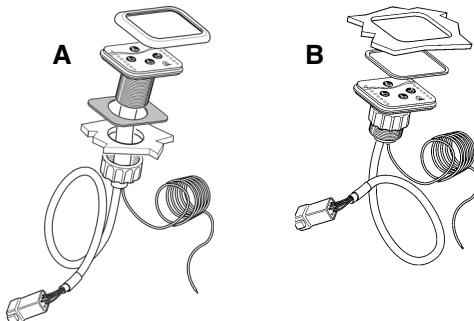

Fig. 20
Install the control panel (B), **see fig. 1, 3 and 20**, easily accessible at the helm station. Hole cutting is diameter 52 mm (2"). **See fig. 3.** Use the gasket, included in the supply (**20 A**). For flush mounting of the panel, press the center section out and use the rest of the gasket for assembly **see fig. 20 B.** See also the hole template for the control panel.